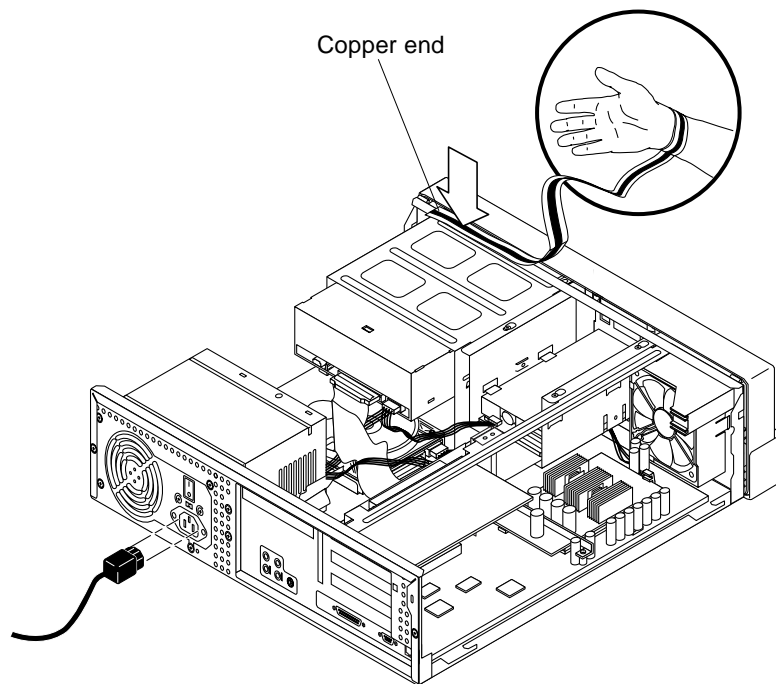

FIGURE 5 Attaching the Wrist Strap to the Chassis (Ultra 5)
- c. Attach the copper end of the wrist strap to the chassis (FIGURE 5).**